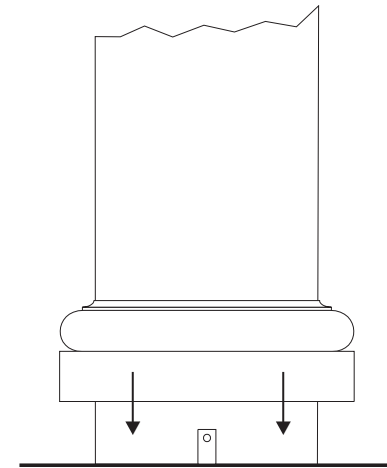
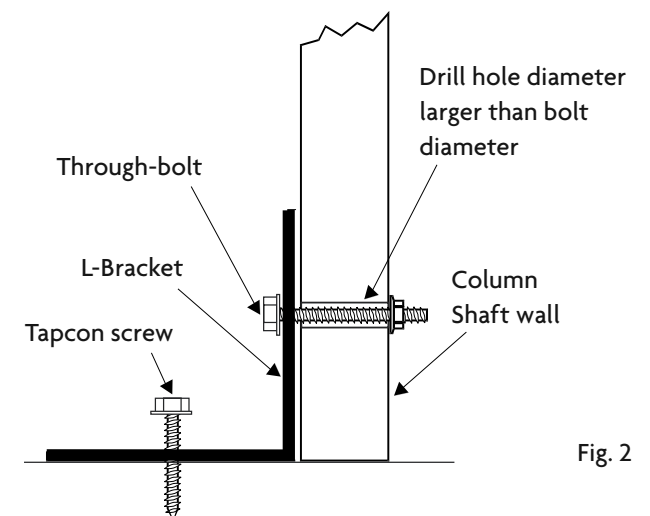

Fig. 1
Fig. 2
3. Slip one-piece cap and base on to column shaft (see figure 1). The two-piece cap and base are attached after the shaft is installed. If installation requires some method of securing the column in place before load is applied, use Poly-Classic Installation Kit #71760 (see figure 2) **NOTE:** Always drill clearance holes in columns and secure with through-bolts—**DO NOT USE SCREWS**—and do not over-tighten.